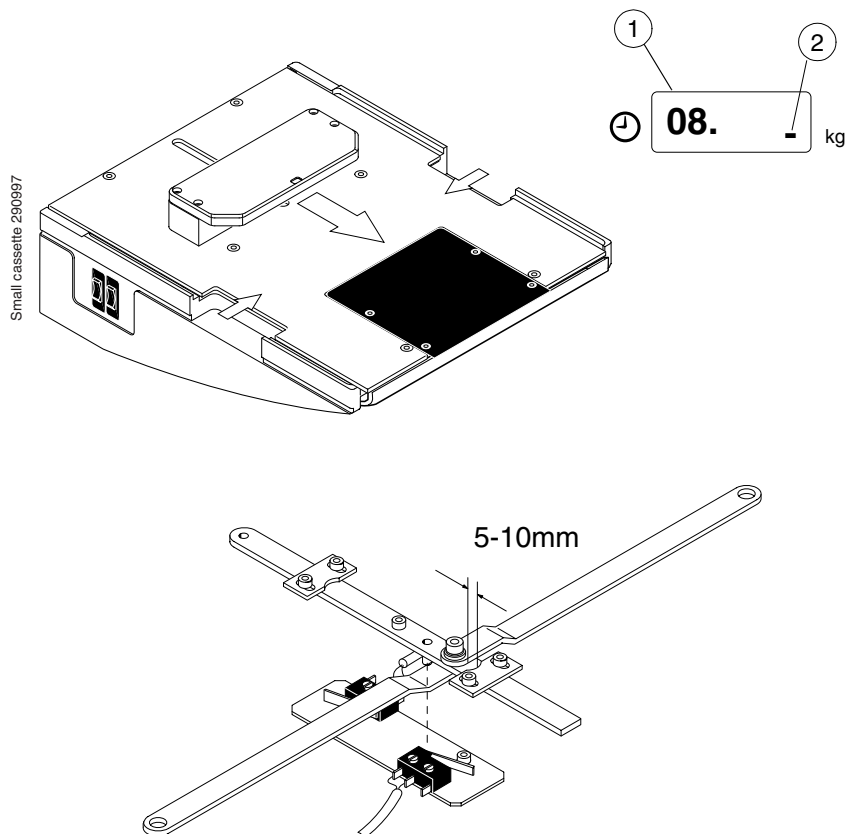

Figure F.38
- b) Enter the service mode and select the display of internal signals mode 08, see "SERVICE MODE FUNCTIONS SHORT-FORM" on page C-4. (Fig. F.38, 1).
- The right lower signal (Fig. F.38, 2) on the display should light when the labeling head is 5 - 10 mm from the extreme position.